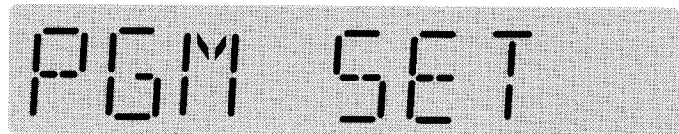

Figure 4-11 Program Settings Display
- Step 2:** Use the **Up** or **Down** pushbuttons to move to the **Program Settings** display menu (Figure 4-11).